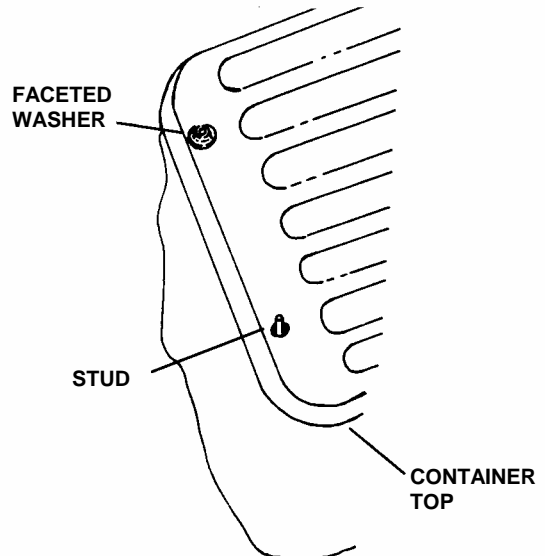

FIGURE 8
STEP 8: Install the grass catcher latch (item 13) on the outside of frame using the #10-3/8" long cap screw (Item 14) on outside of frame and with the #10-32 lock nut (item 15) on the inside. Tighten nuts and screws securely but still allow the latch to rotate. Refer to exploded illustration on page 6. Position the container top over the studs of the frame and secure with the five 5/16" faceted washers. See Figure 8.